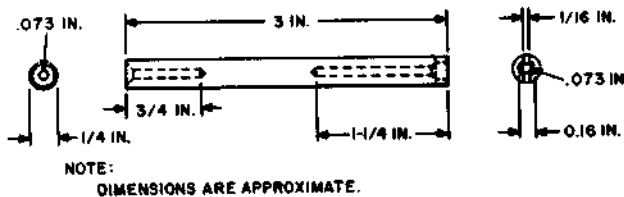

Fig. 27—KS-16748, L1, Insertion Tool
2.29 KS-16748, L1: The KS-16748, L1, insertion tool (Fig. 27) is used in replacing solderless-wrap terminals in cast resin terminal strips.